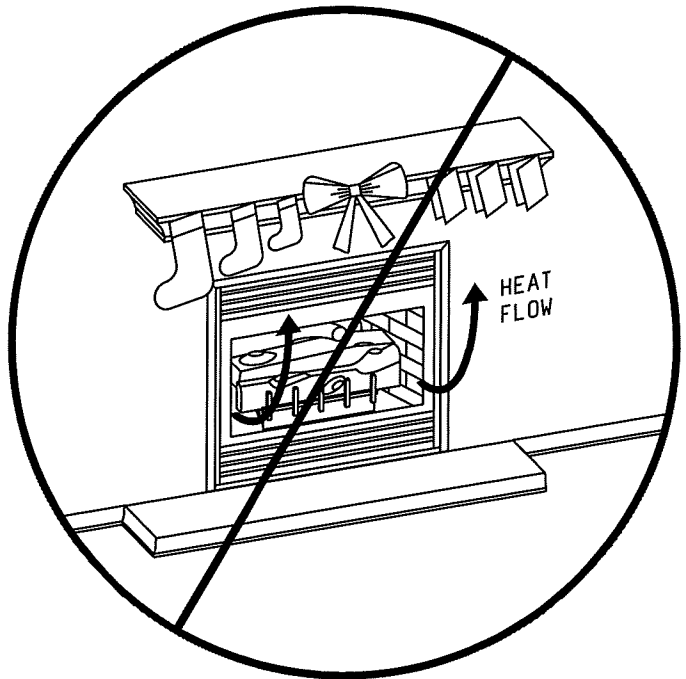

Figure 12
**Combustible Material (Figure 12)**